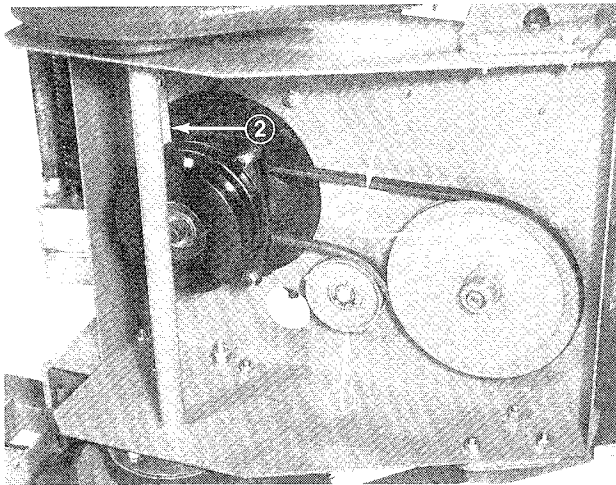

Figure 25
1. Loosen capscrew and flange nut securing idler pulley to frame (Fig. 25). Slide pulley outward relieving belt tension.
2. Remove left front engine mounting bolt securing clutch retainer to frame (Fig. 25). Unhook retainer from clutch and remove retainer.
3. Disconnect in-line wire connector and remove belt from drive pulley and clutch (Fig. 25).
6. Position and secure idler pulley to frame so belt deflection is no more than  $11/64$ " when 5-1/2 lb of force is applied to midspan of long leg of belt (Fig. 25).
1. To adjust clutch, tighten or loosen locknuts on flange studs (Fig. 25).